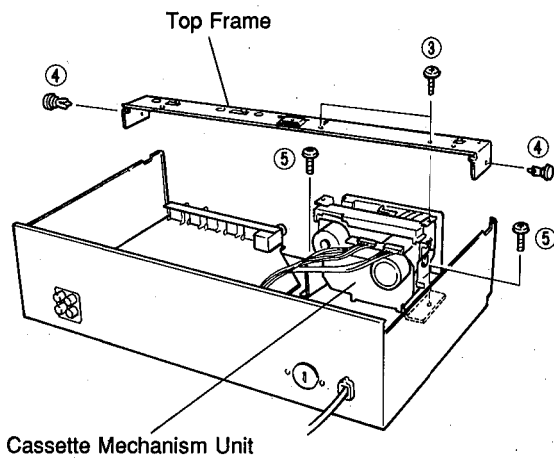

Fig. 2
- Remove 2 screws (③) and 2 plastic rivets (④) in Fig. 2 and then remove the Top Frame.
- Remove 2 screws (⑤) in Fig. 2 and then pull off the Cassette Mechanism Unit to the back side gently.